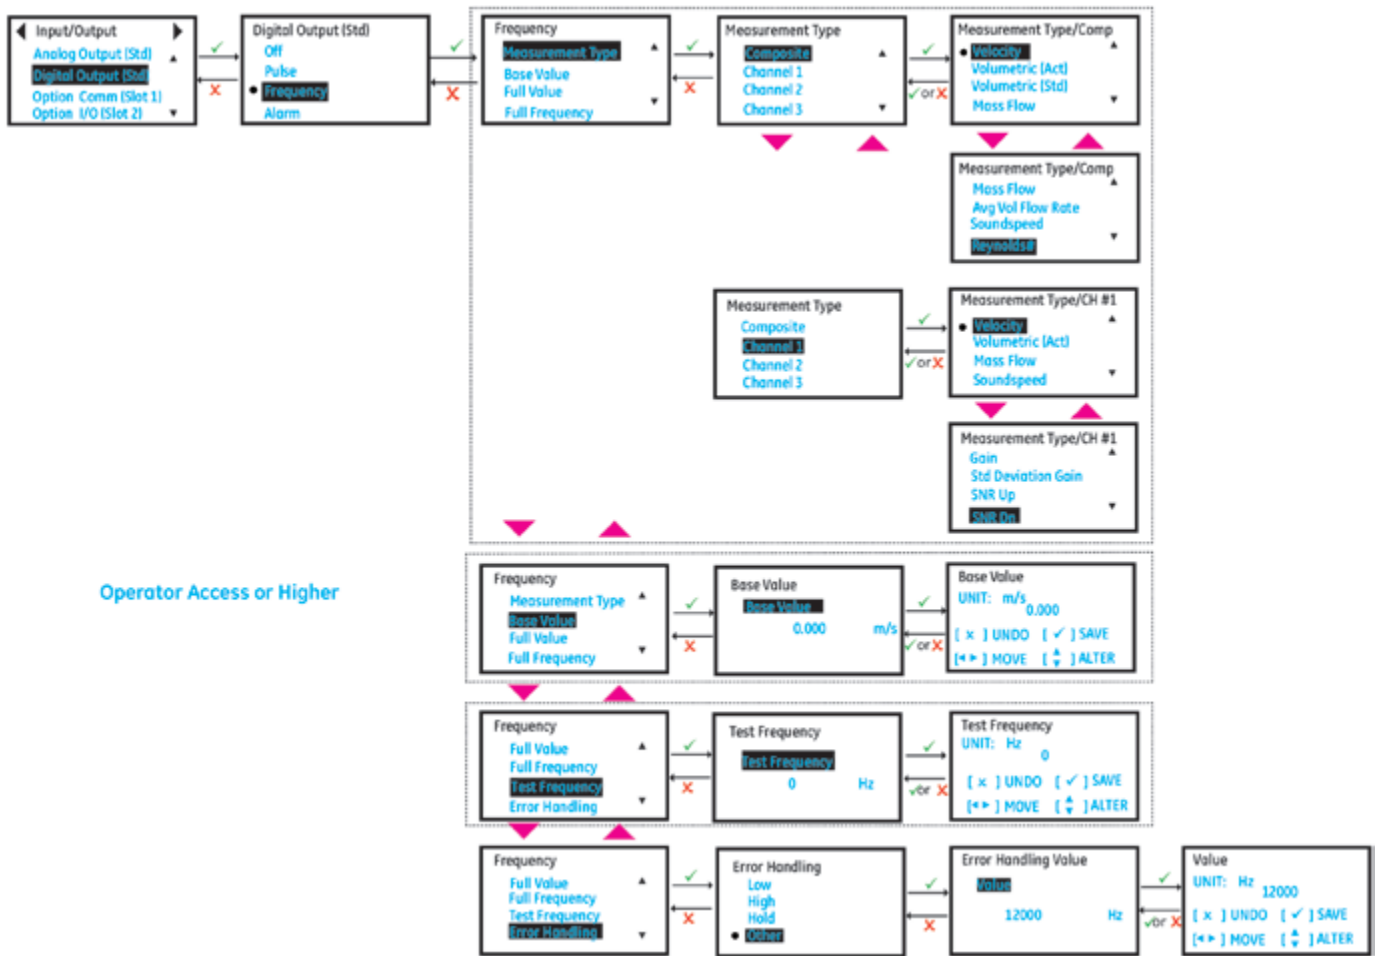

Figure 59: Setting up frequency output
2. Setup the [Measurement], [Base Value], [Full Value], [Full Frequency] and [Error Handling] options to suit your needs. The Figure 59 below, shows the available options. Also refer to the Table 9 below to understand each option.